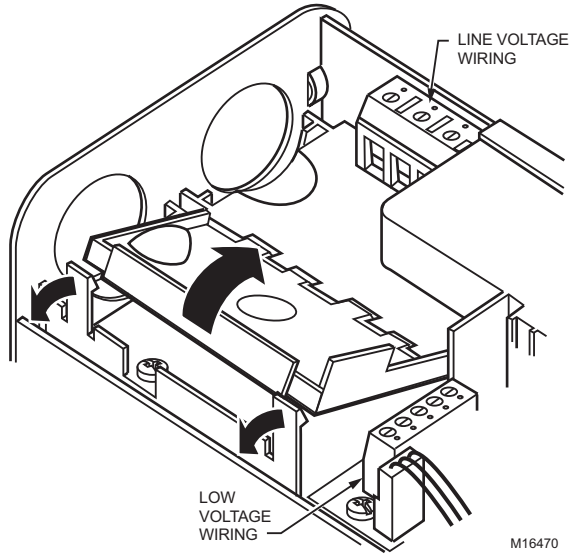

Fig. 5. Opening ML7999C low-voltage wiring compartment.
2. Pull back the snap-locks while opening the low-voltage compartment. See Fig. 5.